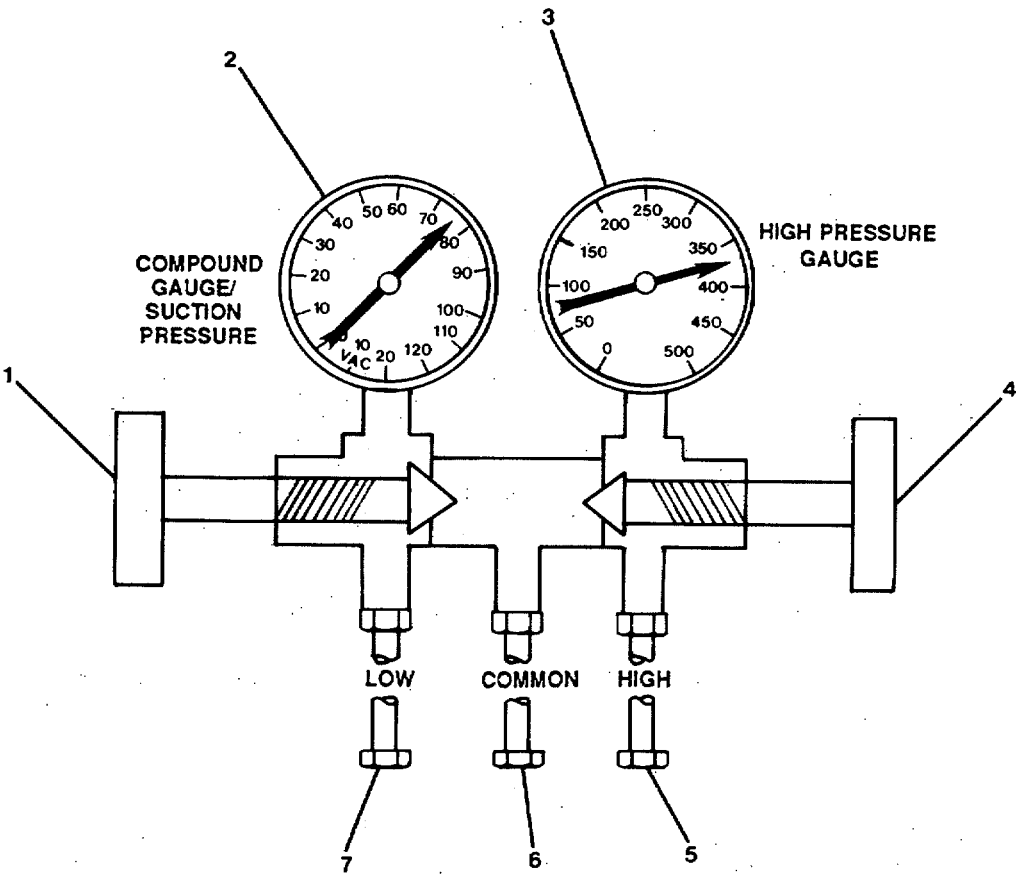
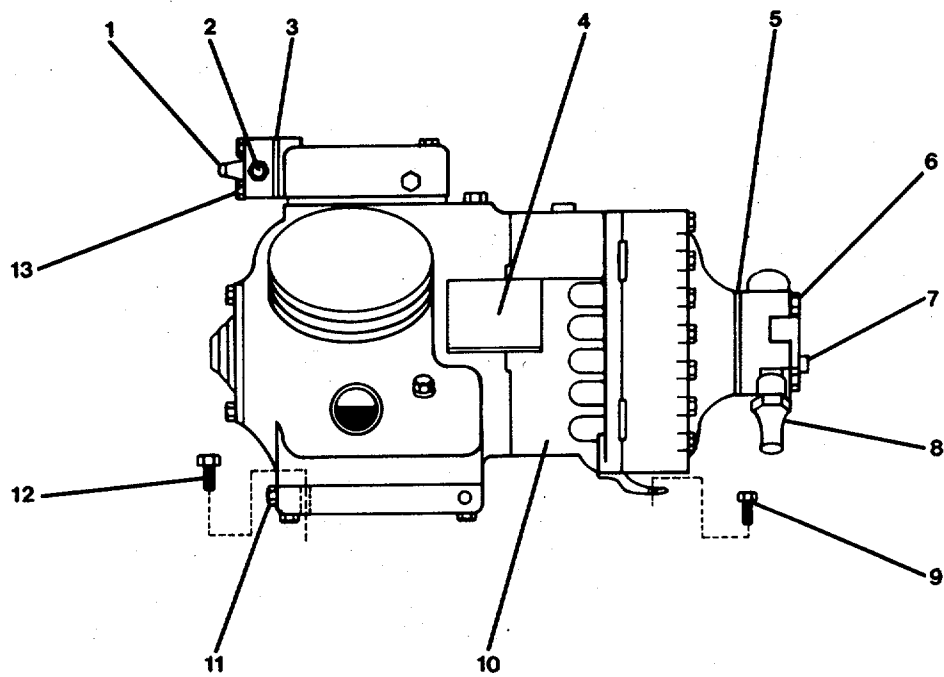
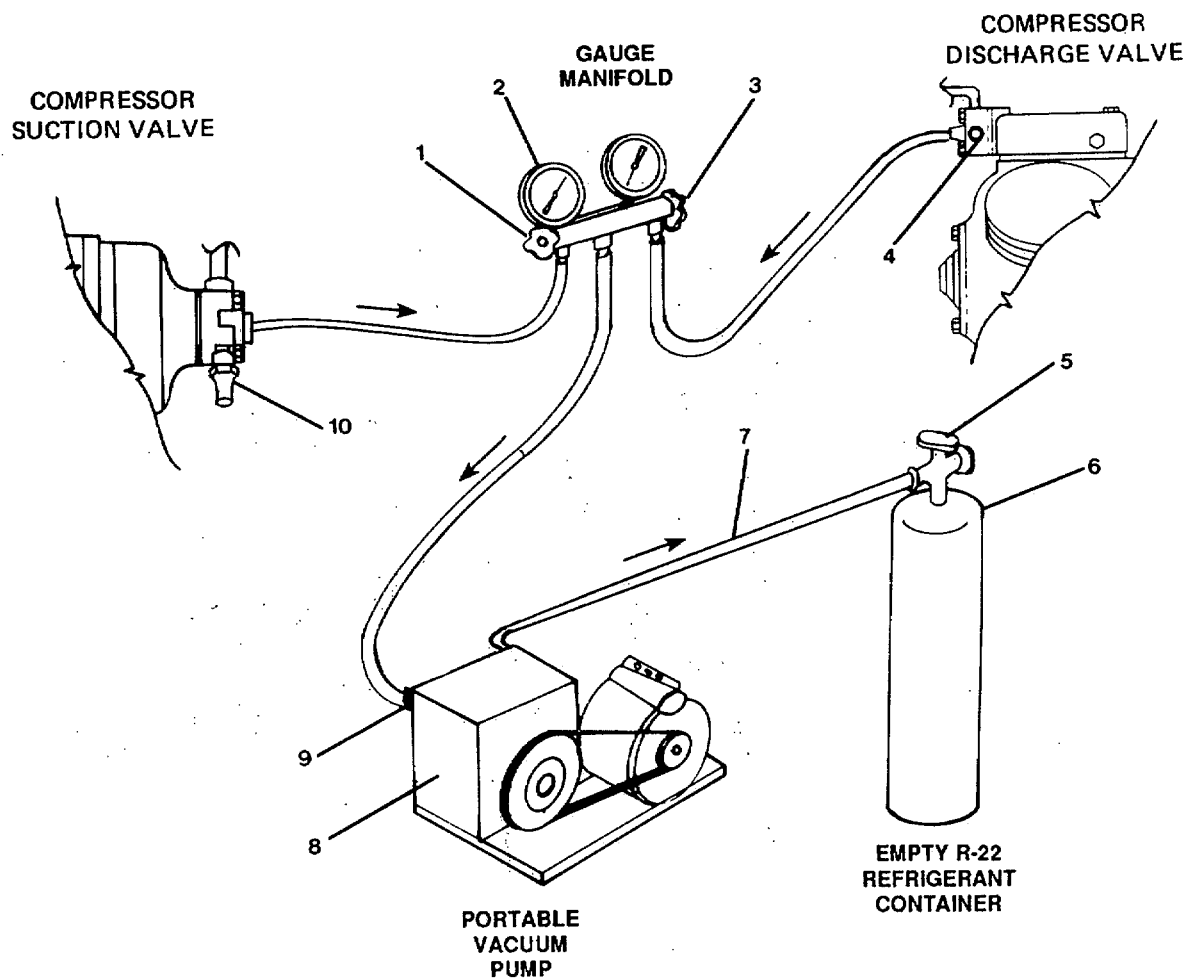

Figure 4-16. Portable Gauge Manifold.
FIGURE 4-17. Refrigeration Compressor .
Figure 4-18. Removing Refrigerant Charge From Compressor.
- (1) Connect a portable gauge manifold from the refrigeration tool kit to the compressor as follows (refer to FIGURES 4-16, 4-17, and 4-18):
- (a) Connect the combination gauge hose line (7, FIGURE 4-16) to the gauge port connection on the compressor suction valve (7, FIGURE 4-17).
- (b) Connect the high pressure gauge (3, FIGURE 4-16) hose (5) to the gauge port connection on the compressor discharge valve (1, FIGURE 4-17).
- (c) Connect the common hose (6, FIGURE 4-16) to the suction connection (9, FIGURE 4-18) on a portable vacuum pump (8).
- (d) Connect the discharge line (7) of the vacuum pump to an empty R-22 refrigerant container (6). Make sure hand-wheel, gauge port, valves (1, 3) are closed by turning fully clockwise.
- (2) Remove cap (10) from suction valve and cap (4) from discharge valve for access to valve stems.
- (3) Close both suction and discharge valves by turning valve stems fully clockwise. This will isolate the compressor from the rest of the system.
- (4) Slowly open the handwheel gauge port valves (1, 3) counterclockwise 1/2 to 1 turn. This will allow the refrigerant to escape from the compressor and through the gauge manifold.
- (5) Open the valve (5) on the empty container (6) by turning counterclockwise.
- (6) Start and run the portable vacuum pump (8).
- (7) While the vacuum pump is running, watch the pressure on the combination gauge (2). When pressure has dropped to 1 or 2 psig on gauge (2), close hand wheel gauge port valves (1, 3) and stop the vacuum pump. This will leave a slight positive charge on the compressor.
- (8) If gauge pressure increases rapidly, repeat steps a.(5) through (8) above until 1 or 2 psig is maintained on combination gauge (2).
- (9) Close valve (5) on container (6) by turning fully clockwise.
- (10) Disconnect all manifold gauge hoses (5, 6, 7, FIGURE 4-16).
- (11) Disconnect vacuum pump discharge line (7, FIGURE 4-18) from container (6).
- b. Disconnect suction valve (7, FIGURE 4-17) from compressor (10):
- (1) Remove four capscrews (6). The valve body will remain attached to refrigerant piping.
- (2) Remove gasket (5) and discard.